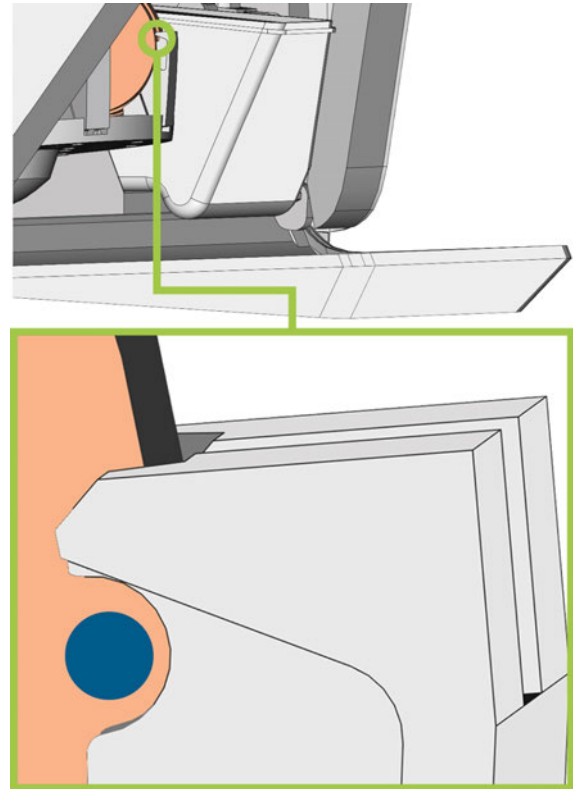

FIG. 53 – THE MARKING FOR REMOUNTING (BLUE CIRCLE) LIES IN THE OPENING IN THE CLAMPING LEVER
10. Discs: If the disc has been marked for remounting, slightly rotate the disc until the marking lies in the corresponding opening in the clamping lever (↗ Fig. 53 – see below).